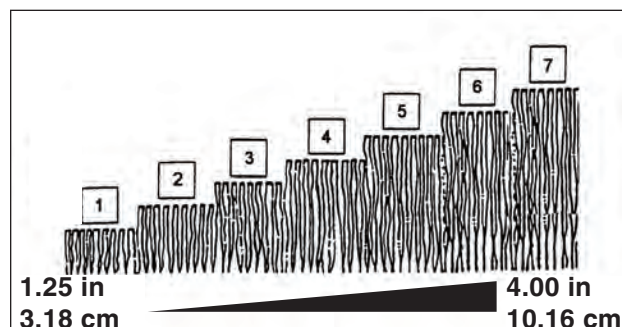

Figure 7: Cutting height settings (approximate)
2. Set all wheels at the same cutting height. The highest cutting position is Notch 7 (**Figure 7**). The lowest cutting position is Notch 1.